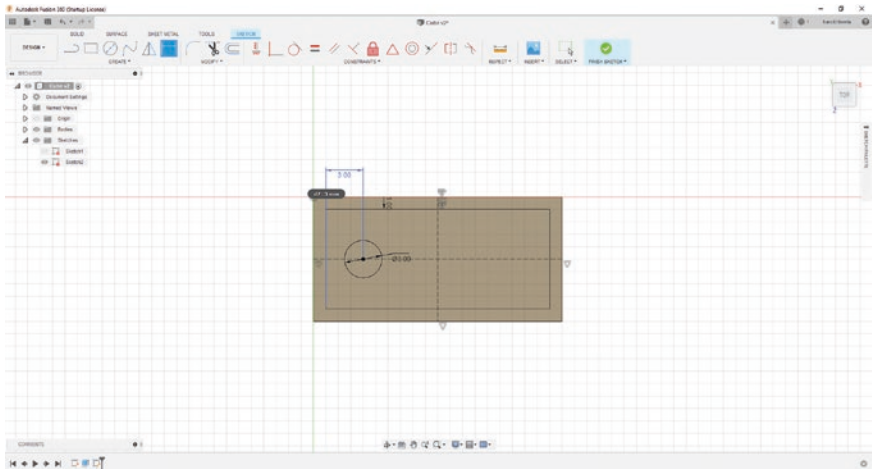

Figure 3-69. Add the dimension from the left offset to the center of the circle to 3mm
22. Next, press the “D” key and select from the center of the circle to the edge of the left side of the vertical offset and put 3mm into the text field and press enter. See Figure 3-69.